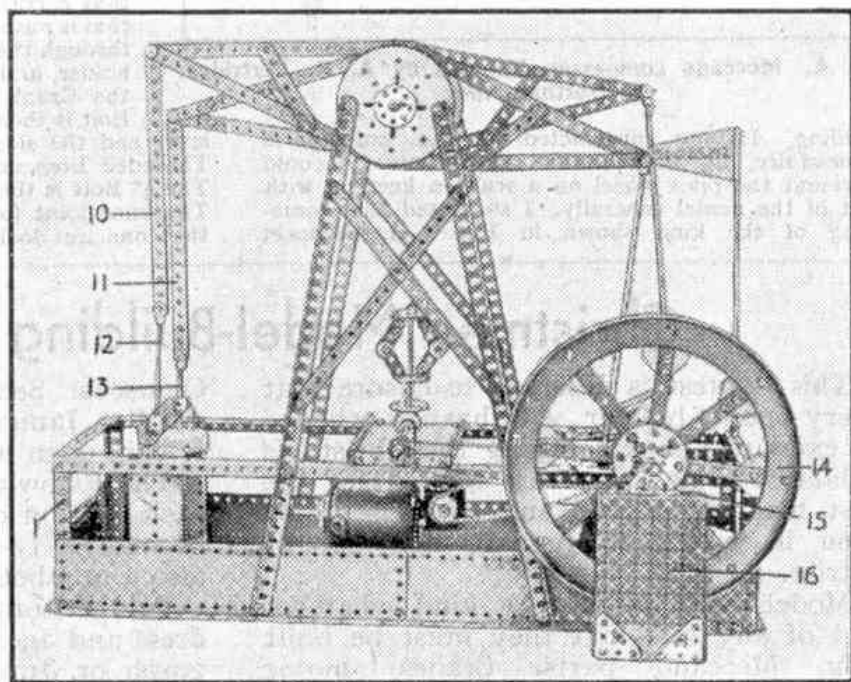
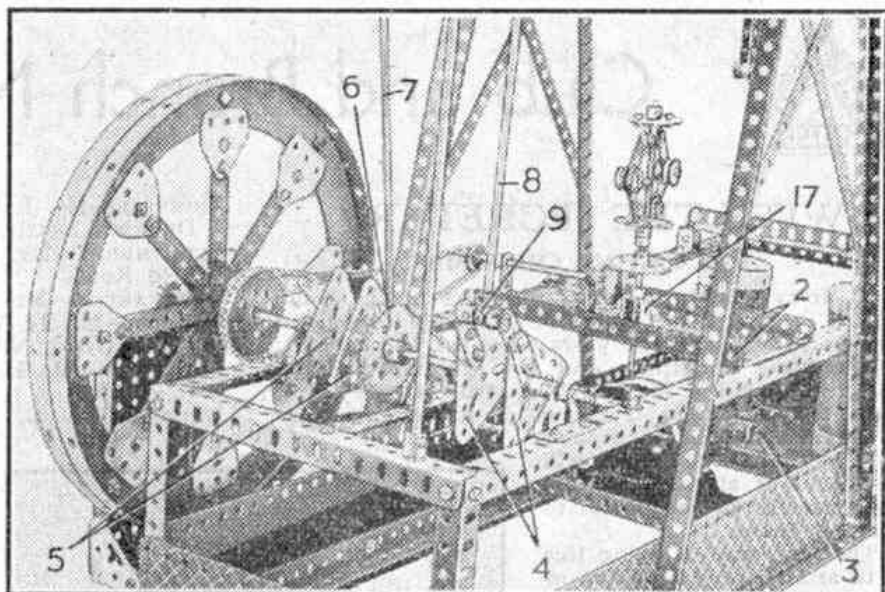

Fig. 1. A fine working model Twin Beam Engine.
Fig. 2. A close-up view of the Beam Engine showing details of the crankshaft and governor.
**C**ONSTRUCTION of the model Beam Engine shown in Figs. 1 and 2 is begun by building up two rectangles from  $18\frac{1}{2}$ " and  $7\frac{1}{2}$ " Angle Girders. For these the ends of two  $18\frac{1}{2}$ " Girders are bridged by two  $7\frac{1}{2}$ " Girders, the four being securely bolted together. When the two rectangles are built they are connected together by four  $5\frac{1}{2}$ " Angle Girders 1 placed one at each corner as shown in Fig. 1. Two further  $5\frac{1}{2}$ " Angle Girders 2, Fig. 2, serve as supports for a  $5\frac{1}{2}$ "  $\times$   $3\frac{1}{2}$ " Flat Plate that forms a base for the governor mechanism. The beams are carried on supports consisting of four  $18\frac{1}{2}$ " Angle Girders, which are bolted two on each side of the base as shown, and at their upper ends are bolted to 4" Circular Plates. These Plates each carry a Bush Wheel in which the axle on which the beams pivot is journalled. The construction of the beams will be clear from Fig. 1. The Rod on which the beams pivot is passed through the centre holes of two  $4\frac{1}{2}$ " Angle Girders, which form the centre vertical member of the beams. The  $9\frac{1}{2}$ " Strips of the beams are bolted to the ends of these Girders.
The opposite ends of the beams also carry 1" Rods on each of which pivot two pairs of  $9\frac{1}{2}$ " Strips 10 and 11, Fig. 1, which form the links between the beams and the piston rods 12 and 13. Connection between the Strips and the Rods is made by means of large Fork Pieces.
The crankshaft is journalled in Trunnions fixed to the frame in the positions shown in Fig. 2, and at the flywheel end there is an outrigger bearing consisting of a further Trunnion bolted to a  $3\frac{1}{2}$ " Angle Girder 15. This Girder is supported between the ends of two  $5\frac{1}{2}$ " Angle Girders that in turn are attached at their lower ends to the  $12\frac{1}{2}$ " Angle Girders of the base by means of two  $3\frac{1}{2}$ " Angle Girders. The  $5\frac{1}{2}$ " Girders are also joined at their lower ends by a second  $3\frac{1}{2}$ " Angle Girder, and the rectangular frame so formed is filled in with a  $5\frac{1}{2}$ "  $\times$   $3\frac{1}{2}$ " Flat Plate 16.